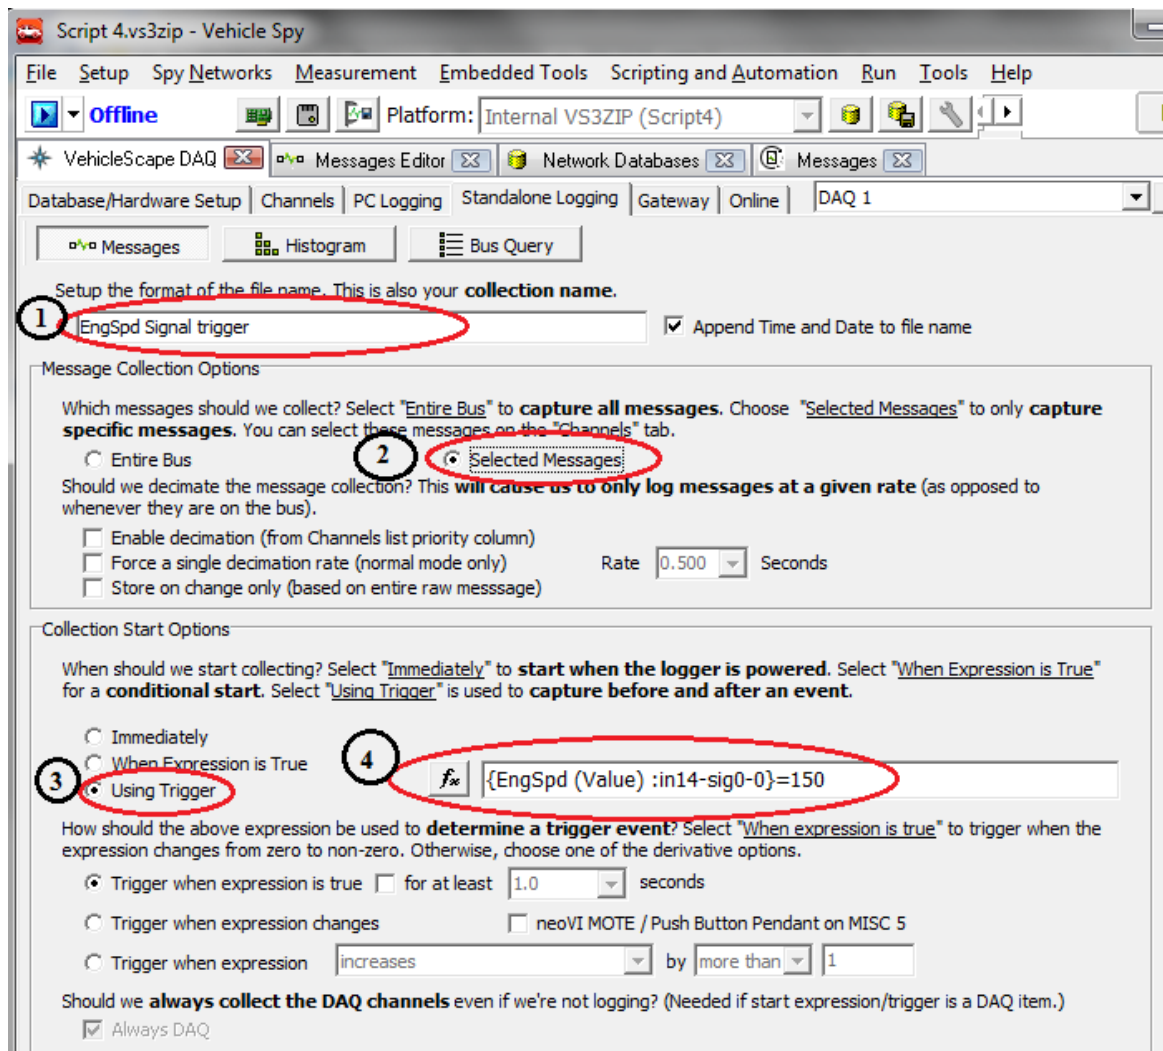

Figure 16.a Configuration for collection for data logging as on EngSpd signal value
- Collection name: Write a Collection name 'EngSpd signal Trigger' in collection name box (Figure 16.a (1)) (Default name will be Collection 1) and check the box on its side to append Date & Time to the file name. So it will create collection by selected name with date and time.
- Message collection option (Figure 16.a (2)): Select 'Selected channels' option. So it will log only that channels which is selected in channel tab.
- Select 'Using Trigger Expression' (Figure 16.a (3)): Click on  tab. It will open 'Select start Expression' window. (Figure 16.a (4))